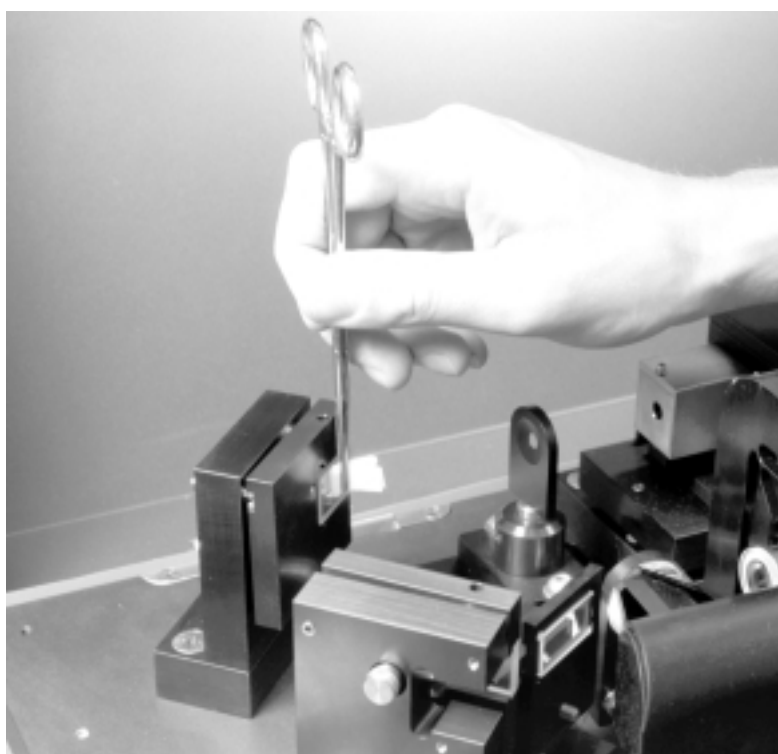

Figure 6-1. Cleaning of Installed optics
5. Gently wipe across the optic in one direction, see Figure 6-1. One pass should be sufficient. Repeat if necessary with a clean tissue.